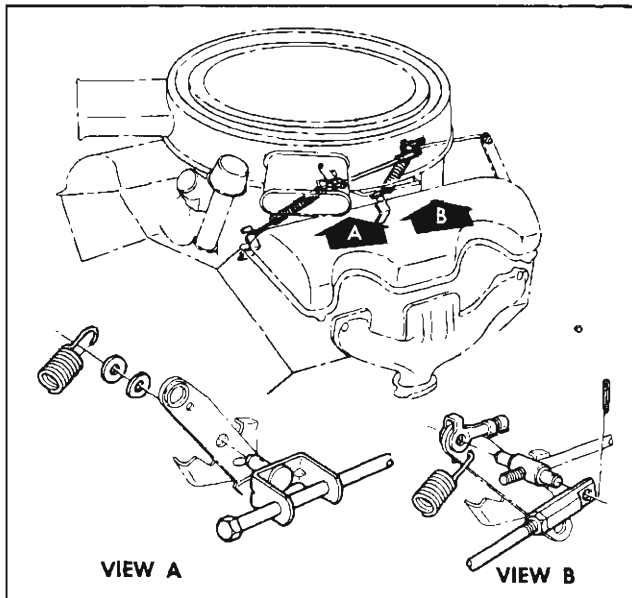

Fig. 92—Accelerator Linkage
5. If necessary to adjust, disconnect accelerator rod at carburetor and adjust swivel so it freely enters hole in carburetor throttle lever (fig. 92), then connect and secure accelerator rod with retainer clip.